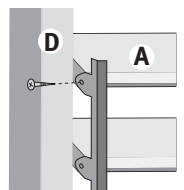

fig. 7
4. Cut the Control Arm (E) to length and attach to left or right end of Blades using the small screws provided into the pre-drilled holes in the End Caps (fig.7). Adjust the screw tension to control the movement of the Blades.